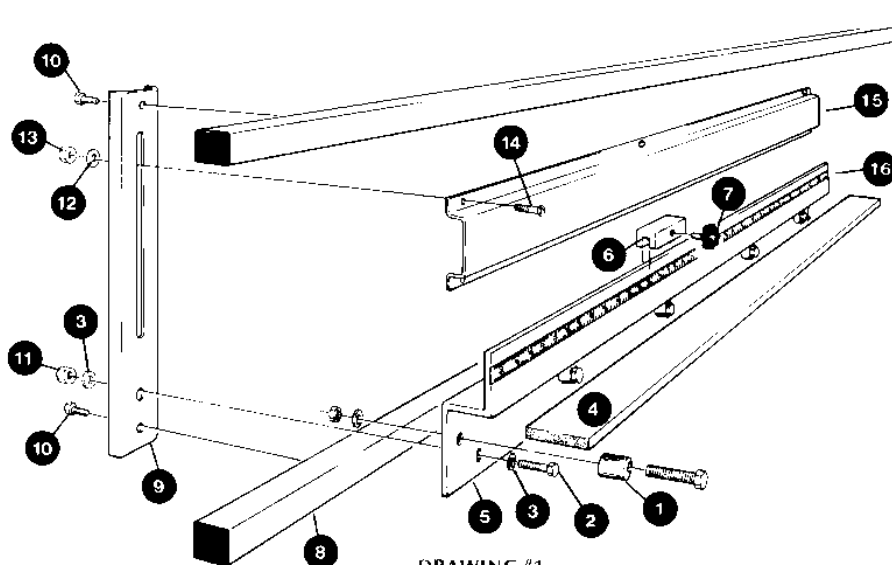

Figure 45: Pre-assembly of Midway Fence
The Midway Fence Accessory is a removable horizontal work piece support that mounts halfway up the tool frame. It allows narrow work pieces to be worked at waist height. The fence consists of left and right fixed brackets that mount to the frame, and removable supports for each side. The accessory contains the components shown in Fig. 45.
1. Lay out the parts shown in Fig. 45 on a horizontal surface (table or bench) for pre-assembly. Note that one end of each fence extrusion is cut at a 45° angle. The units should be pre-assembled so that these beveled ends will fit against the center of the tool frame at final assembly.